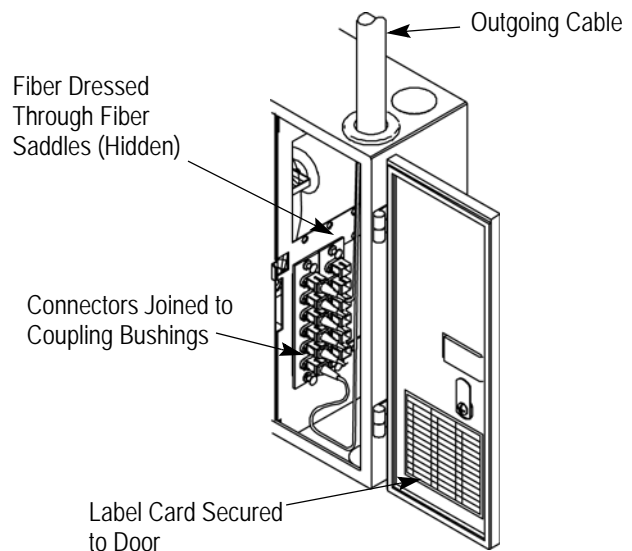

Figure 8
3. Join connectors to the coupling bushings, starting at either end of the adapter plate. Make sure that each connection is secure. See Figure 8.
4. Record connector positions using the label cards, then secure the label card to the inside of the box door. See Figure 8.